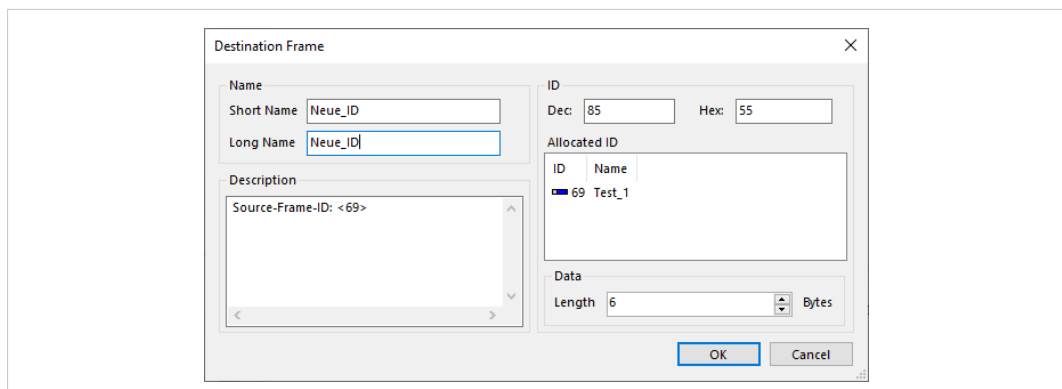

Fig. 19 Edit message ID
- In example Fig. 19 the source CAN receives the message ID 69 and forwards the message with ID 85 to the destination CAN.